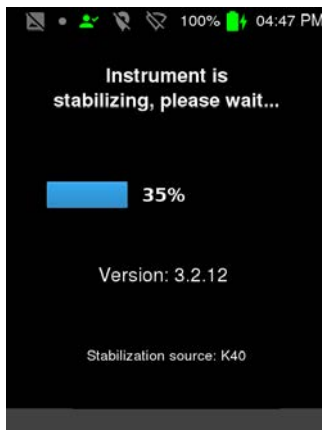

Figure 134: Initial Stabilization during instrument start
6. The RAD EAGLET-R begins an initial stabilization [Fig. 134, p. 128].